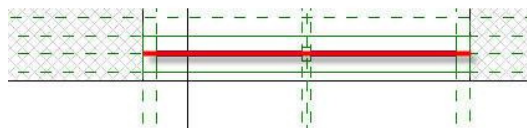

Figure 47. The Symbolic Line representing the glass.
5. From the Detail ribbon, click Symbolic Line. From the ribbon, change the Line Style to “Glass (Cut)”. Draw the Symbolic Line shown in Figure 47 on top of the Frame Center Reference Plane.